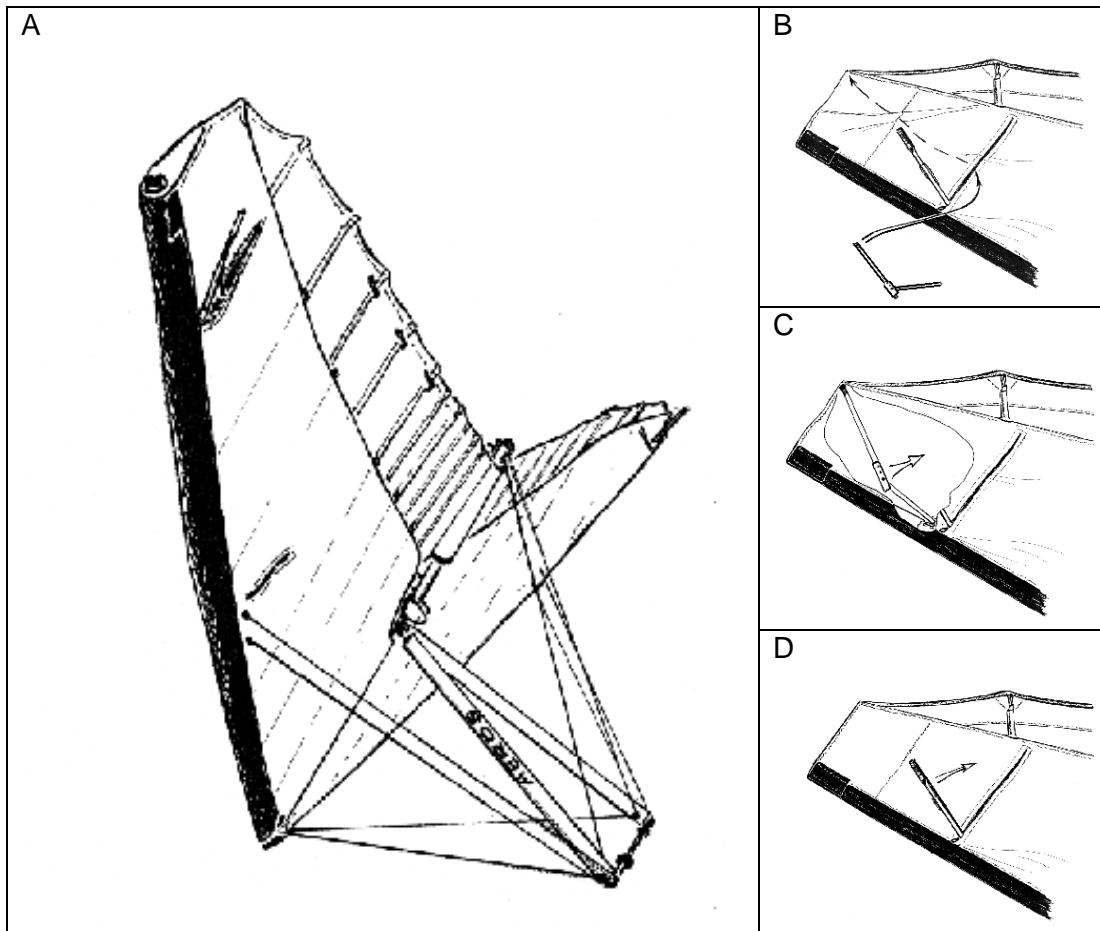

Fig. 21
- pull the bend towards the keel and gently straighten the batten completely (Fig. 21).